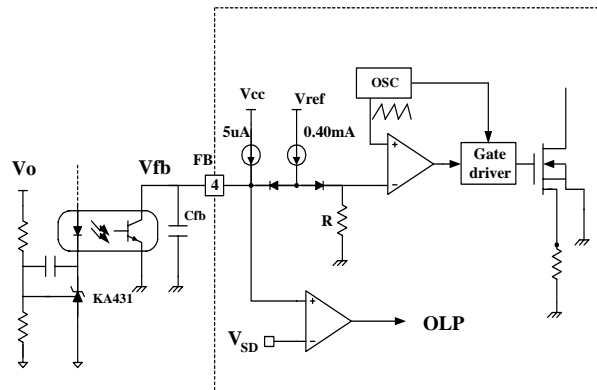

Figure 6. PWM and feedback circuit
2. Feedback Control : The FSDM311 are the voltage mode devices as shown in Figure 6. Usually, an opto-coupler and KA431 type voltage reference are used to implement the feedback network. The feedback voltage is compared with an internally generated sawtooth waveform. This directly controls the duty cycle. When the KA431 reference pin voltage exceeds the internal reference voltage of 2.5V, the opto-coupler LED current increase pulling down the feedback voltage and reducing the duty cycle. This will happen when the input voltage increases or the output load decreases.